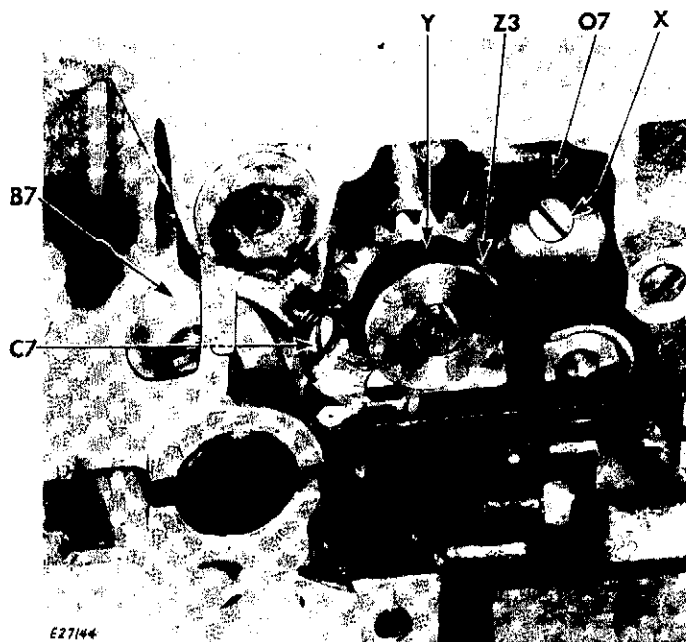

Fig. 315. Hook Shaft Bevel Gears
NOTE: Flat on shaft **K3** must be toward left end of machine (hook bracket end), so that set screw **X**, **Fig. 315** may be fastened upon it.
CAUTION: Hook shaft gear Y, Fig. 315, and hand wheel gear C6, Fig. 310, page 150, may be removed to facilitate adjustments. **DO NOT DISTURB THE MESH OF ANY OTHER GEAR IN THIS MACHINE.** All other gears are mated and correctly timed. Replacements should be made at the factory.
3. **Mark the two bevel gears Y and O7, Fig. 315, with chalk or crayon, on one tooth of one gear and the corresponding space for that tooth between the teeth of the other gear, to facilitate re-assembly.**
4. Loosen set screw Z3, Fig. 315.
6. Insert screwdriver through hole B7, Fig. 315, and loosen set screw C7.